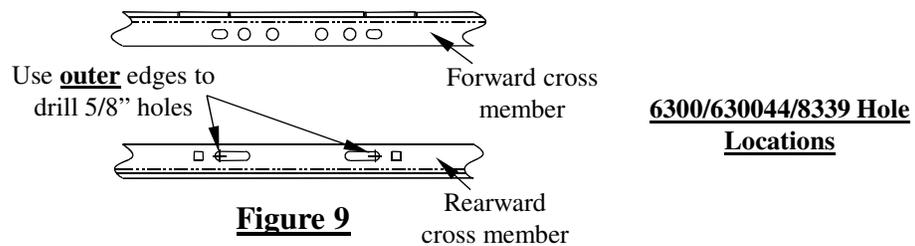

Figure 9
11. **For 6300/630044 & 8339** use the **outer** edges of the long slots in the rearward cross member as a template to drill 5/8" diameter holes through the truck bed as shown in Figure 9. Due to the fuel tank, not all holes can be drilled from under the vehicle, but should be done later from inside the bed.